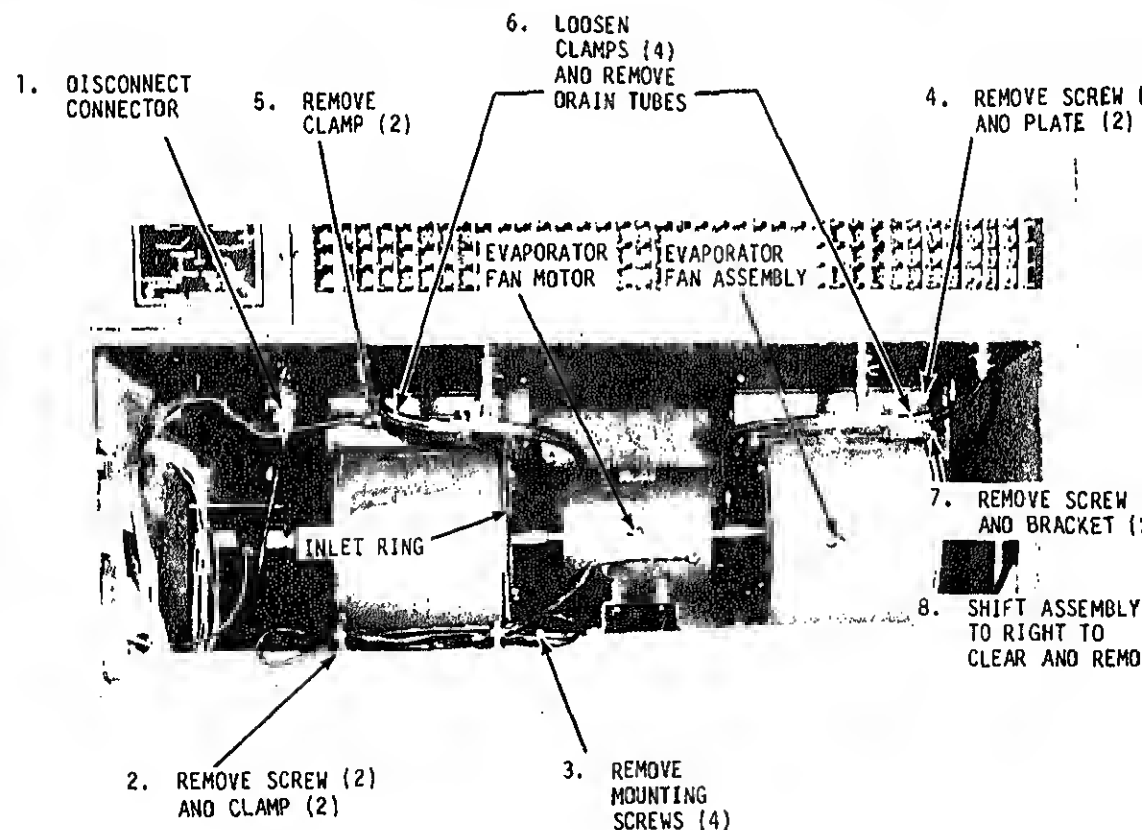

Figure 4-7. Evaporator fan and motor assembly, removal and installation
(2) Refer to figure 4-7 and remove the evaporator fan and motor assembly.
(2) Refer to figure 4-7 and install the evaporator fan and motor assembly.